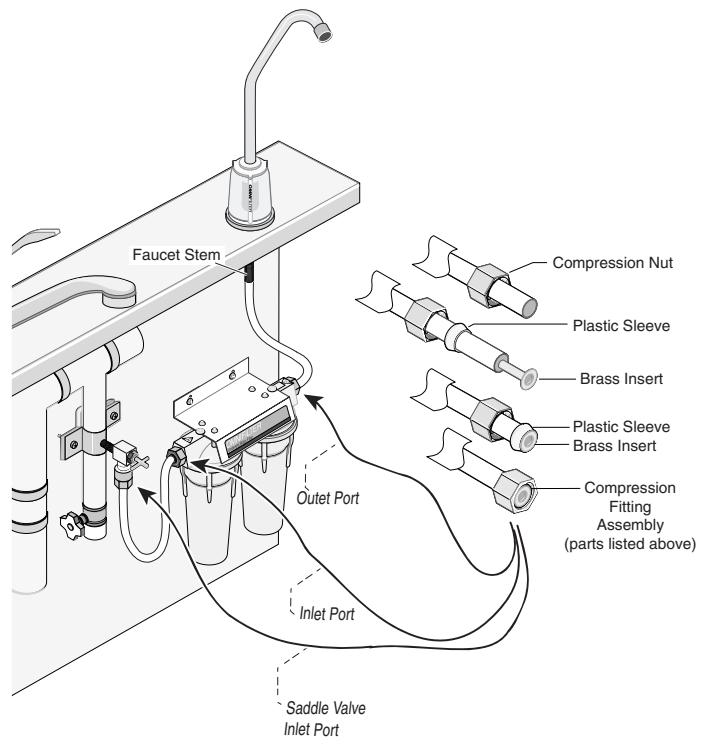

Figure 9
Finish Connecting the Tubing; See Figure 9.
- d. Screw the tubing assembly onto each of the ports as illustrated in Figure 9.